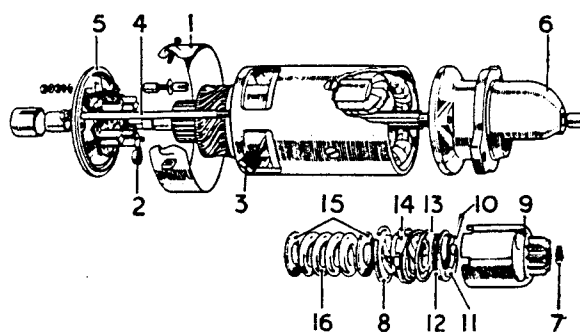

FIG. 10
If the starter motor pinion will not mesh correctly or becomes jammed in mesh with the flywheel, it may be that the starter drive requires cleaning. The control nut (14), Fig. 10, should move freely on the screwed sleeve; if there is any dirt or foreign matter on the sleeve, it must be washed with paraffin. Do not lubricate.
1. Take off the cover band (1) Fig. 10, at the commutator end, hold back the brush springs (2) and remove the brushes (3) from their holders.
2. Unscrew and withdraw the two through bolts (4) and remove the commutator end bracket (5).
3. Remove the driving end bracket (6) from the starter motor housing.
1. Secure the armature by gripping the shaft extension and removing the locating ring (7), Fig. 10, from the end of the shaft.
2. Remove the retaining ring (8) and withdraw the barrel-and-pinion assembly (9).
3. Take out the peg (10) securing the locating nut. Remove the locating nut (11), which has a LEFT HAND THREAD, friction washers (12) and retaining spring (13).
- 4a. Spring type drive only (Fig. 10)—Slide